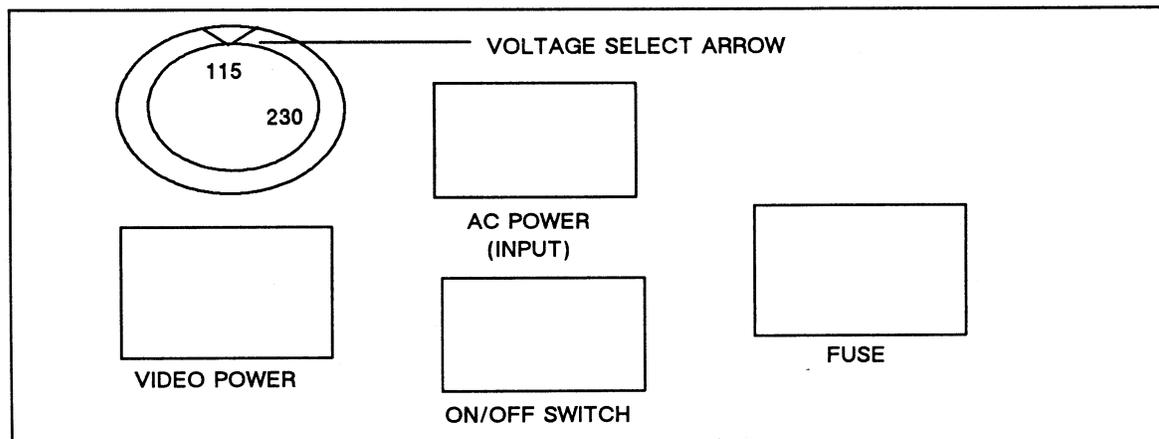

Figure 2-15. Model 30 CADDStation Base Unit Voltage Selection
1. With the base unit resting on a table, face its rear panel. The voltage selection switch is to the left of the AC power switch. See Figure 2-15.
2. Using a flat-blade screwdriver, twist the inner core of the voltage selector so that the voltage you want is aligned with the arrowhead on the top, outer edge of the selector. For example, if you want 115 VAC operation, align the numbers 115 with the arrow, as in Figure 2-15.